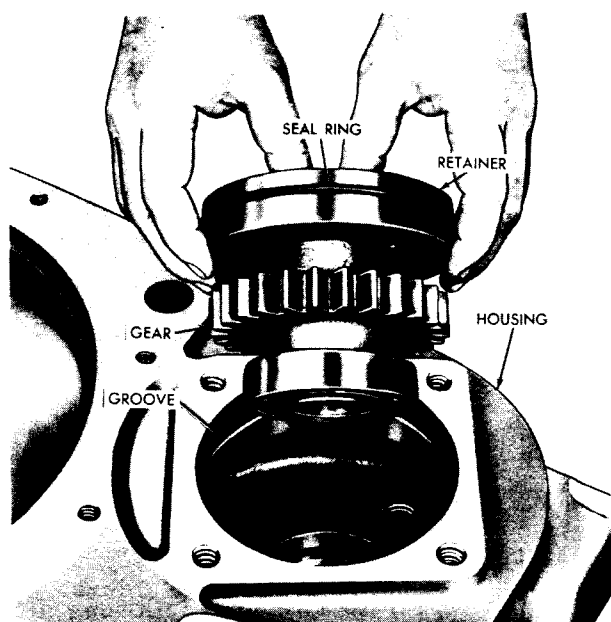

Fig. VI-23. Installing pump drive gear assembly S2467
(13) Fill the snap ring groove in the converter housing with hard grease (such as No. 4 cup grease) and grease the bore to prevent damaging the outer seal ring on the bearing retainer (fig. VI-23).
(14) Install the gear assembly and tap it into the housing until it seats (fig. VI-23). Grease the internal splines of the pump drive gear with molybdenum disulfide (such as Molykote Type G, or equivalent).